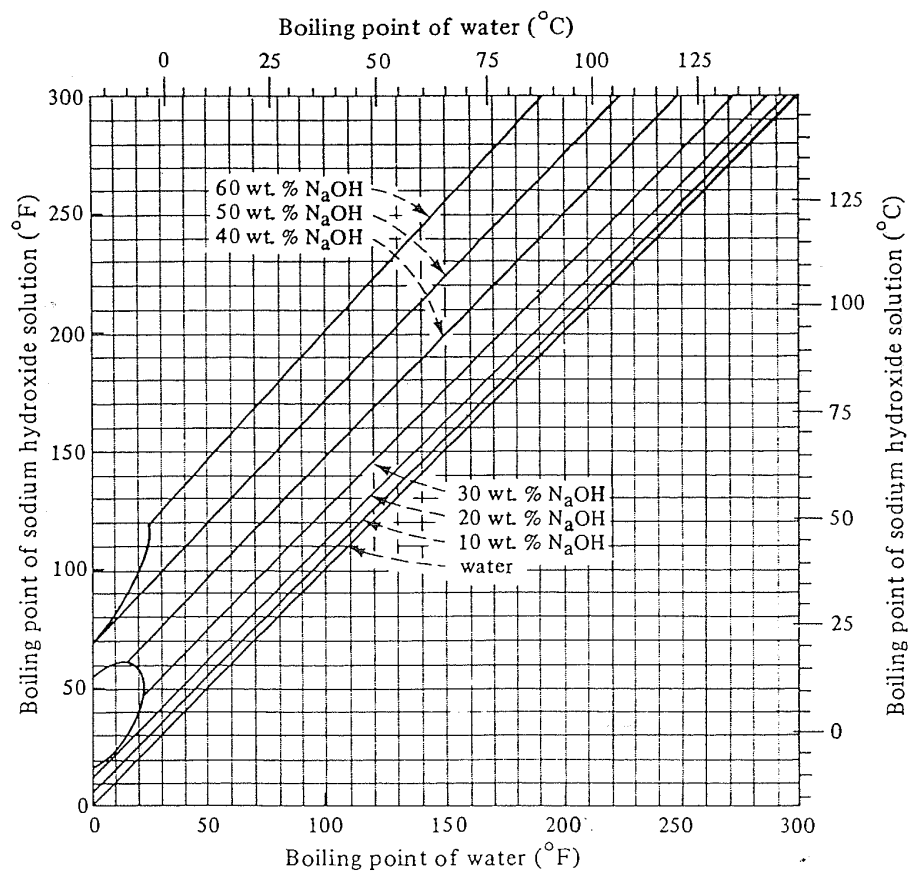

Figure 4: Boiling points for NaOH solutions for use in Q. 2.5.
- Calculate the boiling point rise and operating temperature of the evaporator. Why is it convenient to discuss a boiling point rise rather than an absolute temperature? A Dühring chart for NaOH-water mixtures is available in Fig. 4. **[4 marks]**